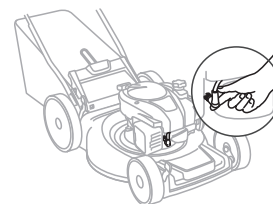

Fig.6A
1. The unit is equipped with a rubber boot over the end of the spark plug, making certain the metal loop on the end of the spark plug wire (inside the rubber boot) is fastened securely over the metal tip on the spark plug. Check to ensure that boot is firmly attached to the spark plug. (Fig. 6A)